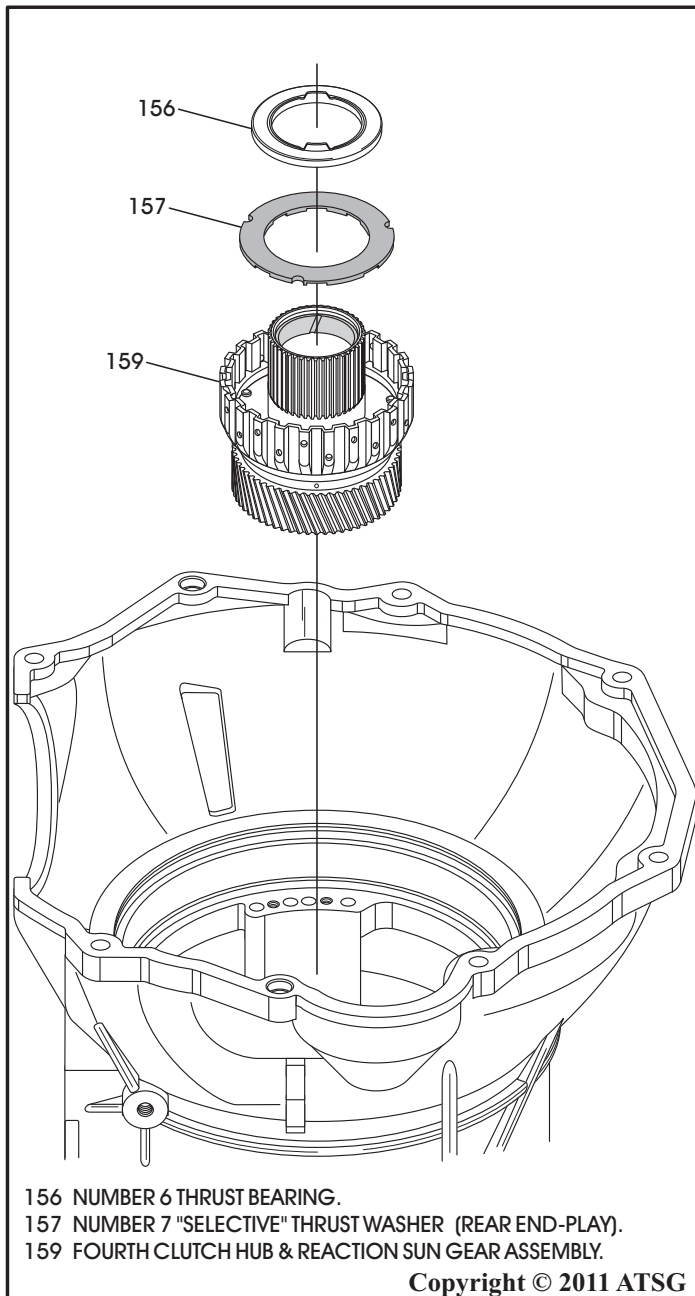

Figure 50
36. Remove number 6 thrust bearing if it is present, as shown in Figure 50. It may have been stuck to the 2-4 clutch retainer.
37. Remove the 4th clutch hub and reaction sun gear along with the number 7 thrust washer, as shown in Figure 50.